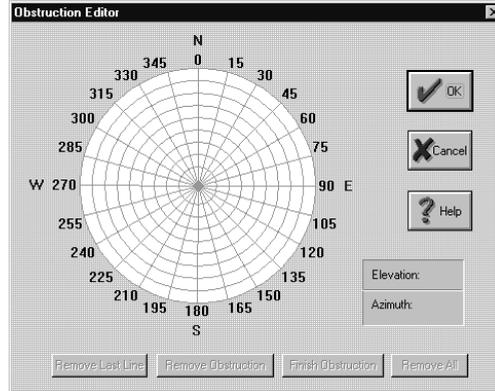

Figure A.12. Obstruction Editor Dialog Box
1. Select **Obstruction** from the **Site List** menu (or click **Obstruct.** in the **Site Editor** dialog box) to open the **Obstruction Editor** dialog box, Figure A.12.